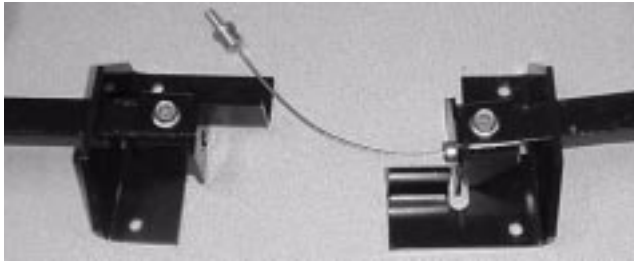

Figure 4
4. Slide the bars through the openings in the brake brackets (Fig. 4).